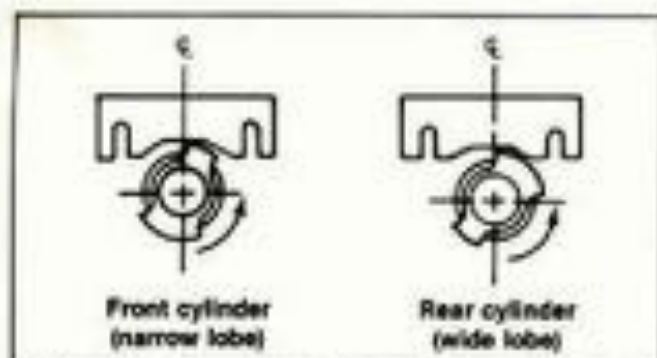

Figure 8-2. Trigger Rotor Position for Ignition Timing
The time of spark plug firing is when the leading edge of each lobe aligns approximately with the center of the sensor as shown in Figure 8-2.
1. Remove screw plug from timing inspection hole (8) in left side of crankcase. Then remove front push rod cover so that opening and closing of valve can be observed.
2. Turn engine in direction in which it runs until front piston is on compression stroke (just after front intake valve closes), and continue turning very slowly (less than 1/2 revolution) until piston top dead center timing mark (8) on flywheel is aligned in the inspection hole as shown.
3. With timer rotor fully retarded, the leading edge of the narrow rotor lobe should be aligned with the center of the sensor body as shown in Figure 8-2. At this point the retarded front cylinder ignition spark occurs.
5. Loosen timer plate screws (5) just enough to shift timer plate (4) using a screwdriver in notch (6), so